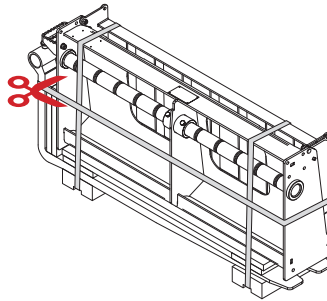

Figure 2
2. Ensure pallet fork frame is sitting stable on timber frame and then cut the straps (Figure 2).
Method 2: Lower the pallet fork so it is just above the ground. Pull locking pin and twist to lock open and kick tyne into position using the heel of your foot (Figure 2). Always ensure you are using appropriate safety footwear before attempting to adjust tynes in this method. Twist locking pin to lock position and move tyne until locking pin falls into tyne rod groove.